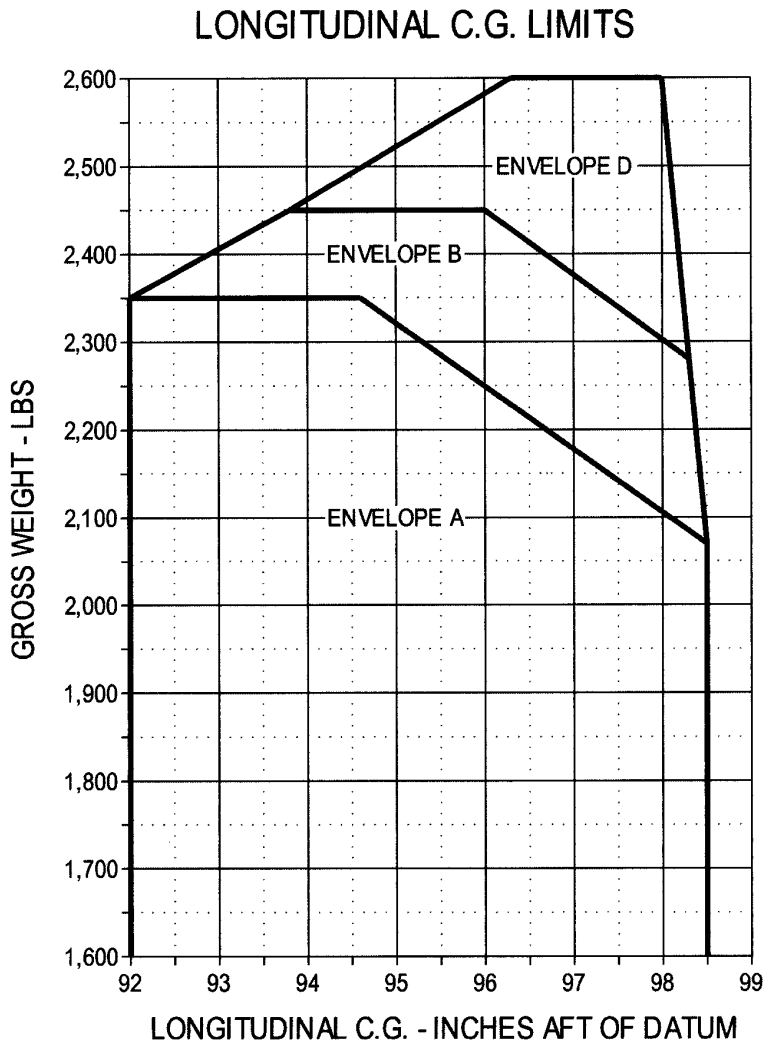

Figure 10-2-3. Longitudinal C.G. Limits
1. There are three gross weight/c.g. envelopes for this helicopter with floats installed. Refer to Figure 10-2-3. Each envelope corresponds to one of three V_{NE} /altitude envelopes as described in Paragraph 10-2-4 of this supplement. Refer also Figure 10-2-1.